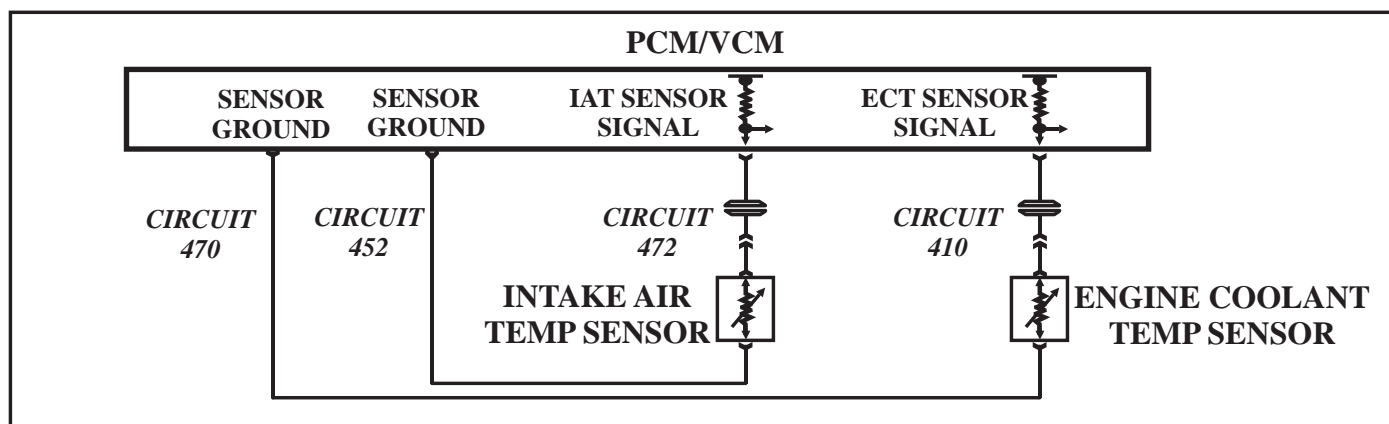

Figure 42
- High Resistance in ECT or IAT Sensor Circuits 472, 410, 452 or 470, (Refer to Figure 42).
- The ECT and IAT Sensors cannot have more than 27°F (15°C) difference after the engine is allowed to cool and is then run for five minutes at normal road speeds, Refer to the IAT Sensor schematic in figure 42 and the temperature chart in Figure 43.